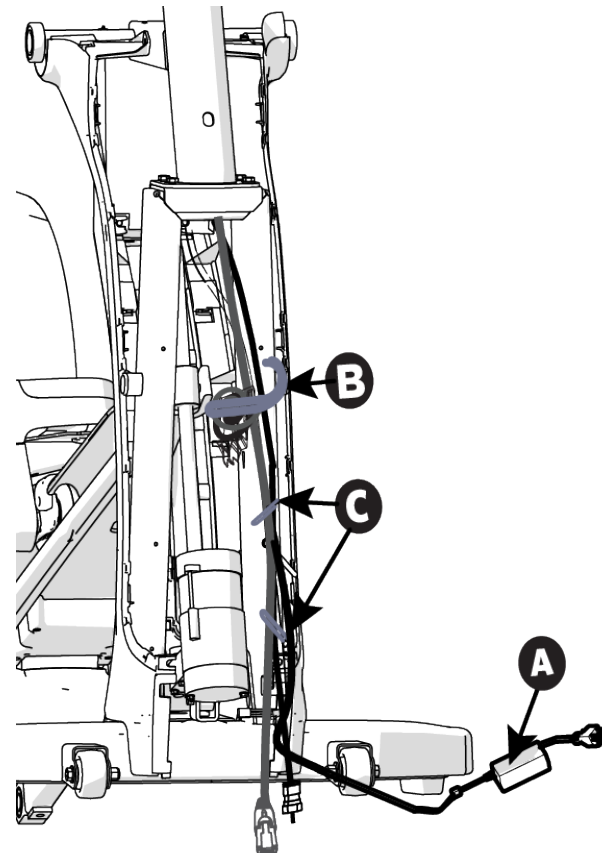

Figure 4
1. Coil up all cables—coax, power extension **A**, and Ethernet—and hold them in place with one hand, and with the other hand, thread a large zip tie around the upright support (Figure 4).